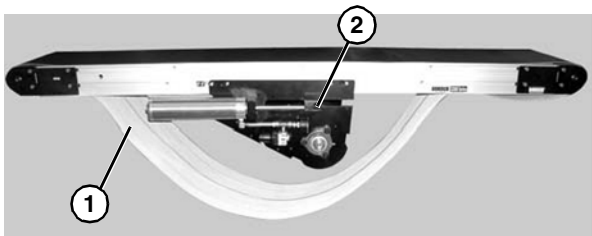

Figure 44
17. Remove belt (**Figure 44, item 1**) from center drive module (**Figure 44, item 2**).